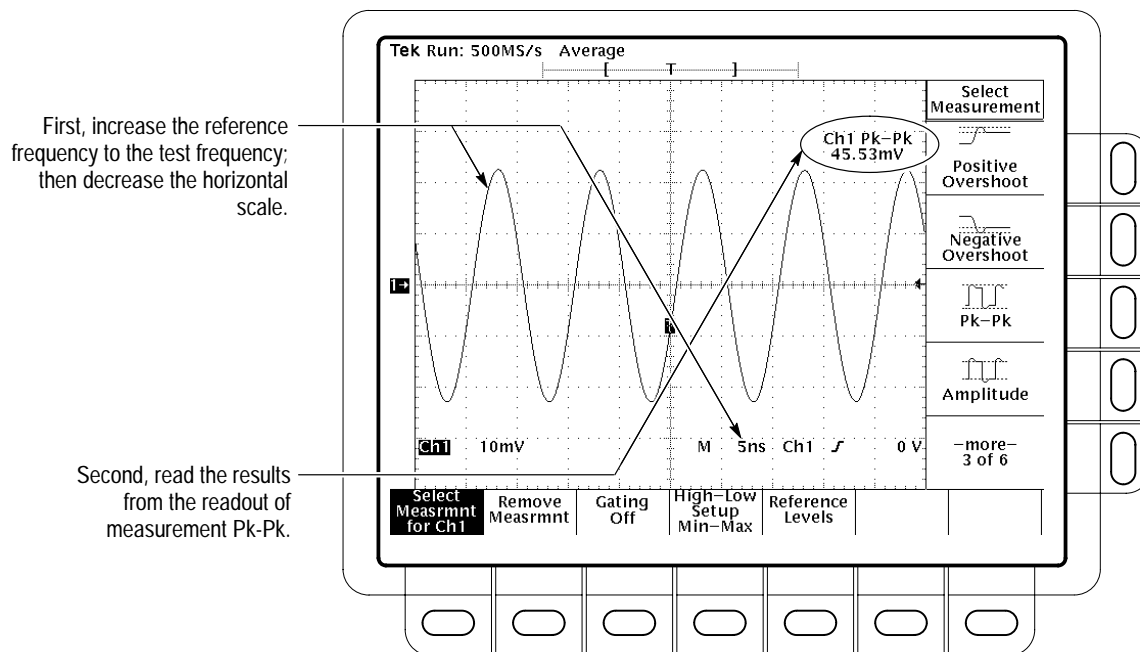

Figure 4-7: Measuring analog bandwidth
13. Check that the **Pk-Pk** readout on screen (as shown in Figure 4-7) is  $\geq 42.5$  mV.